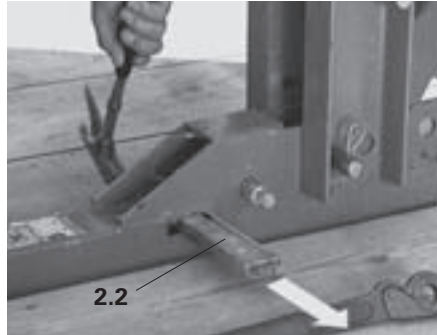

Fig. B3.01
1. Remove wedge (2.2) with hammer. (Fig. B3.01)